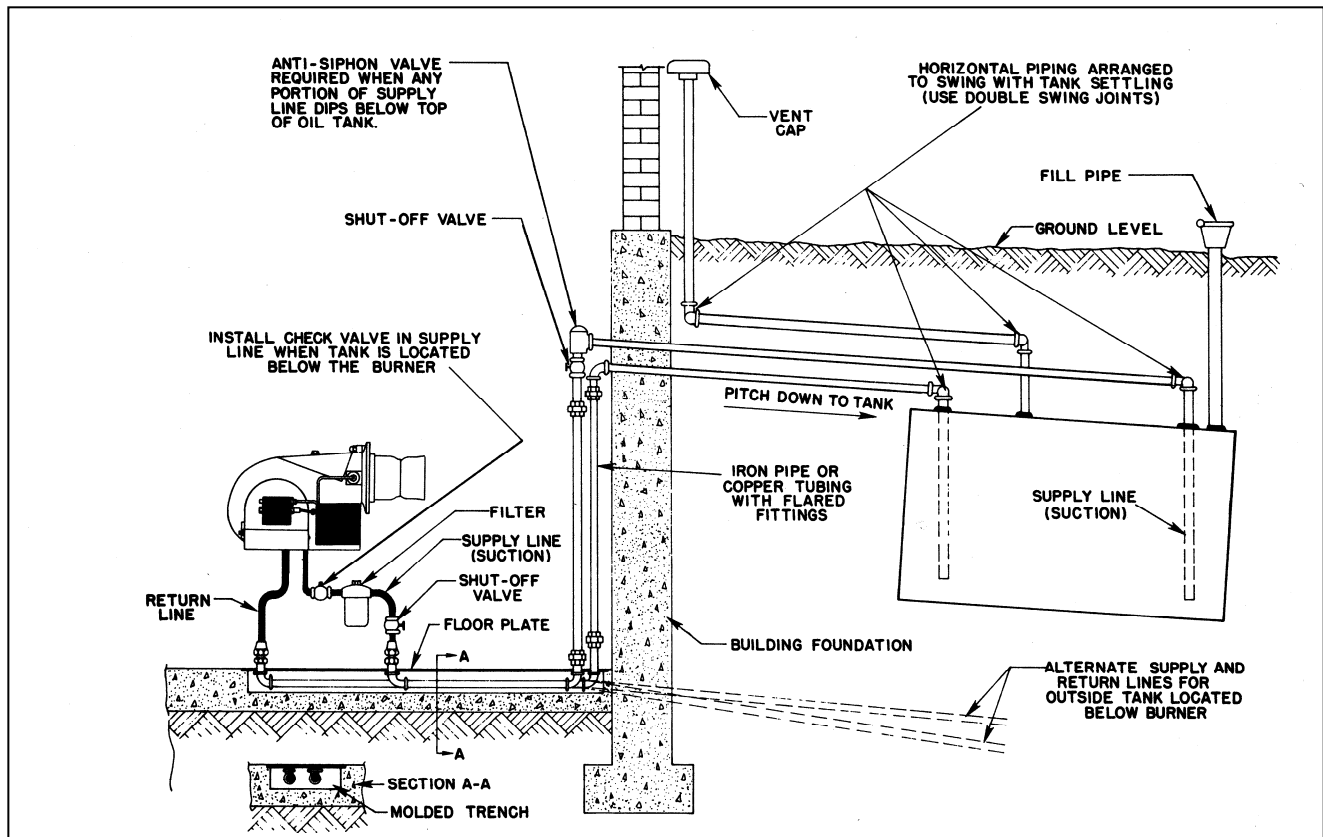

FIGURE 6
- The oil tank construction and installation must meet local codes and should meet the specifications recommended by Underwriter's Laboratories (see Figure 6).